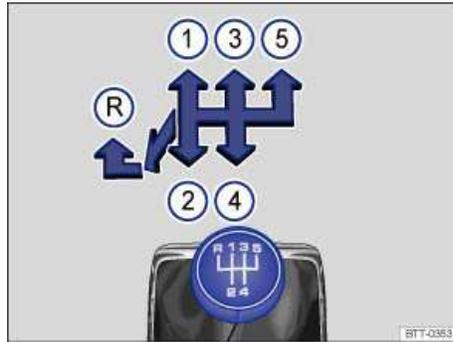
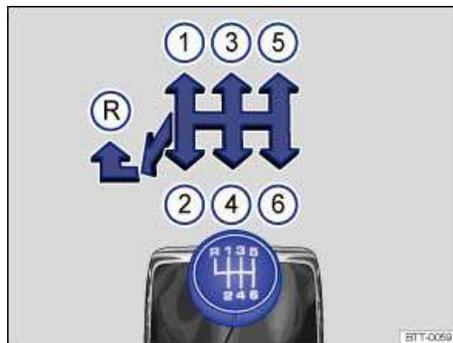

Fig. 138 Gearshift pattern of a 5-speed manual transmission.
Fig. 139 Gearshift pattern of a 6-speed manual transmission.
The positions of the individual gears are shown on the gearshift lever ⇒ fig. 138 or ⇒ fig. 139.
- Move the shift lever to the left and then push forward into the reverse gear position ⇒ fig. 138 \(R\) or ⇒ fig. 139 \(R\).